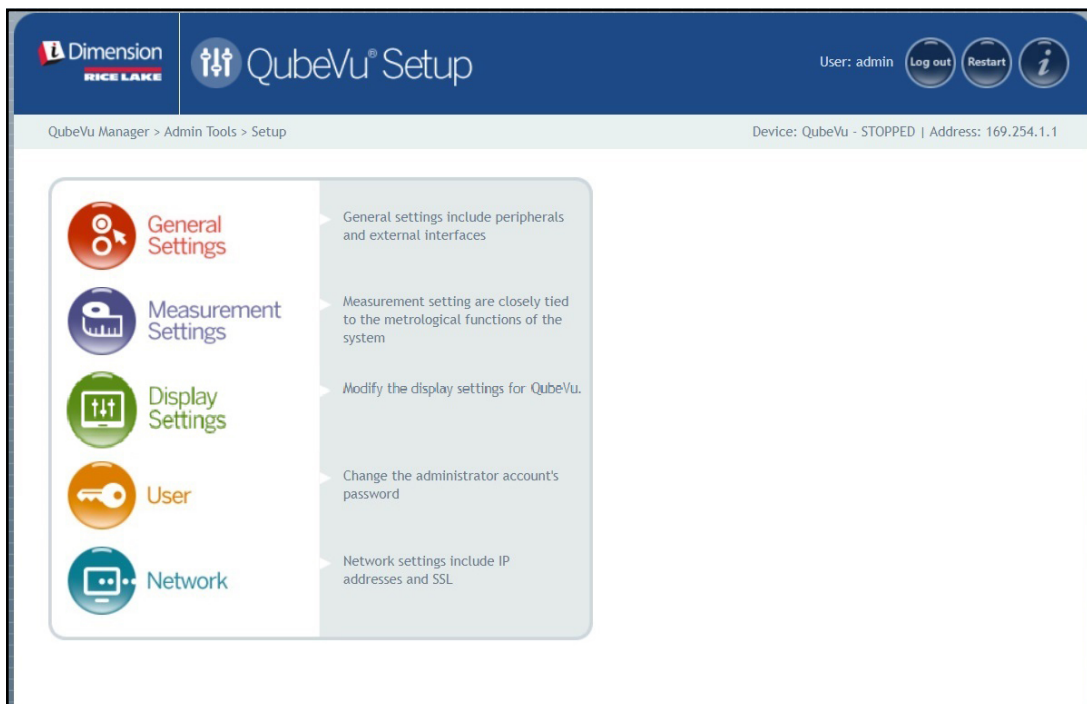

Figure 5-1. Setup Menu
- Select  **General Settings** from the **Setup** menu (Figure 5-1 on page 20). The **General Settings** menu displays.
- Select  **Measurement Settings** from the **Setup** menu (Figure 5-1 on page 20). The **Measurement Settings** menu displays.